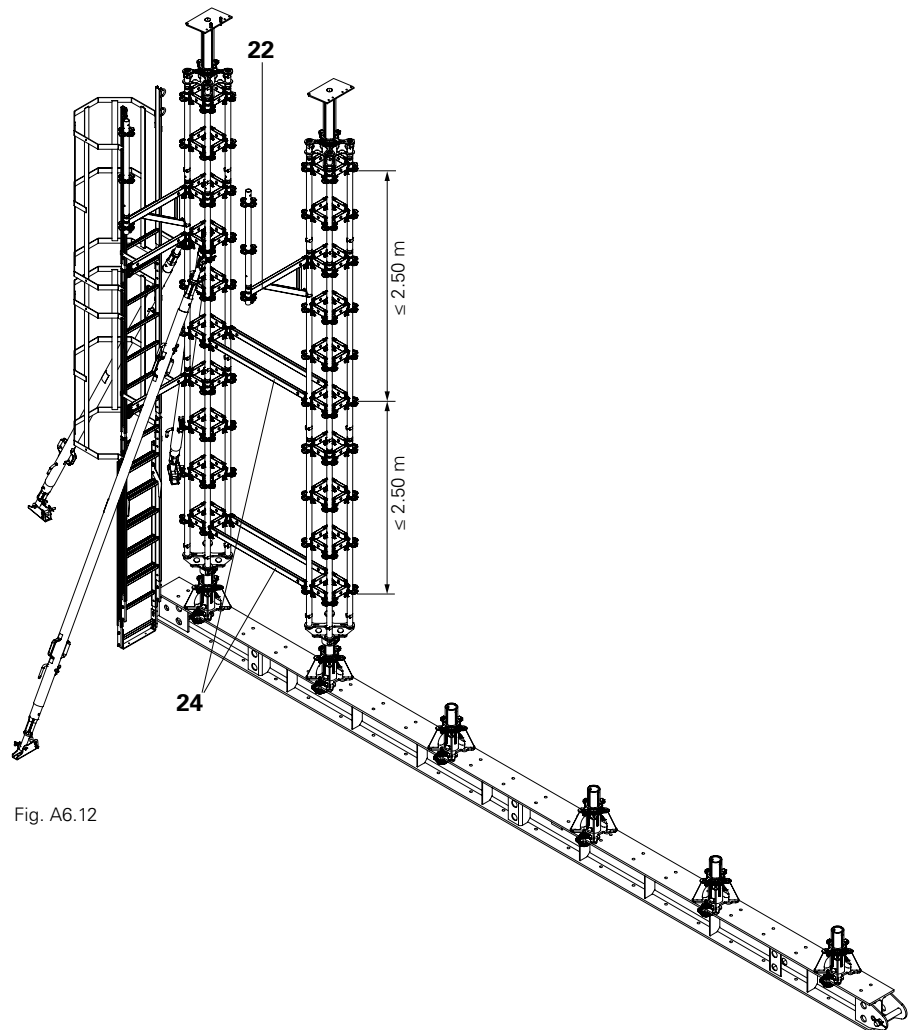

Fig. A6.12
1. Lift and position the second Heavy-Duty Prop HD with mounted Console Bracket UCM 75 (22) and guardrail posts onto the second Lowering Jack with a crane. Leave the Heavy-Duty Prop HD suspended on the crane lifting gear.
2. First install horizontal ledgers (24) in the rosettes of the bottom level as an assembly aid (max. 1.50 m). Subsequently, the spacing of the horizontal ledgers (24) at the top must not exceed 2.50 m. (Fig. A6.12) For more information see Section A6 "Working Platform".